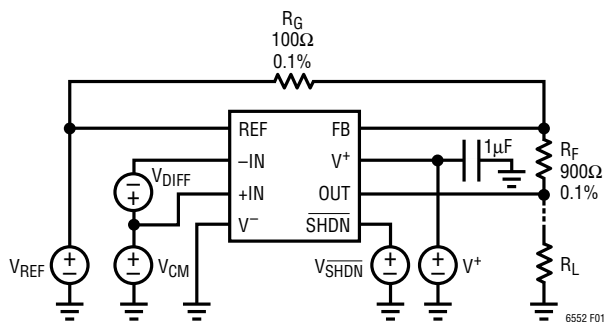

Figure 1. 3.3V, 5V DC Test Circuit
**5V ELECTRICAL CHARACTERISTICS** The ● denotes the specifications which apply over the full operating temperature range, otherwise specifications are at  $T_A = 25^\circ\text{C}$ .  $V_S = 5\text{V}$ ,  $0\text{V}$ ; Figure 1 shows the DC test circuit,  $V_{\text{REF}} = V_{\text{CM}} = 1\text{V}$ ,  $V_{\text{DIFF}} = 0\text{V}$ ,  $V_{\text{SHDN}} = V^+$ , unless otherwise noted.  $R_L = R_F + R_G = 1\text{k}$ . (Note 6)
**5V ELECTRICAL CHARACTERISTICS** The ● denotes the specifications which apply over the full operating temperature range, otherwise specifications are at  $T_A = 25^\circ\text{C}$ .  $V_S = 5\text{V}$ ,  $0\text{V}$ . Figure 1 shows the DC test circuit,  $V_{\text{REF}} = V_{\text{CM}} = 1\text{V}$ ,  $V_{\text{DIFF}} = 0\text{V}$ ,  $V_{\text{SHDN}} = V^+$ , unless otherwise noted.  $R_L = R_F + R_G = 1\text{k}$ . (Note 6)